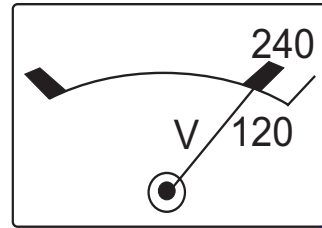

Figure 52. AC Voltmeter (120/240V)
9. Verify that the AC voltmeter is registering a voltage reading as indicated by Figure 52.